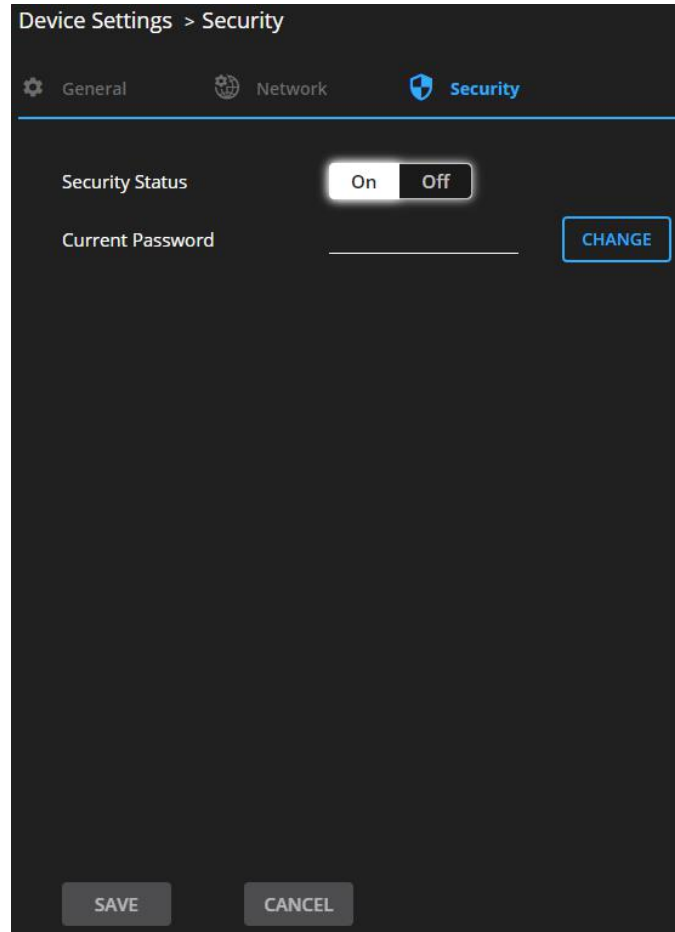

Figure 57: General Settings Tab – Security
2. Click **On**. The full security page appears (see Figure 57).
1. In the Navigation pane, click **Settings**. The Settings page appears, displaying the Security area (see Figure 57).